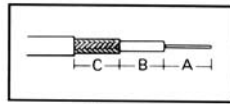
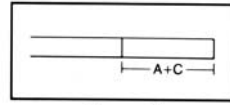

Figure 13
Figure 14
**A.** If your required strip length is as shown in Figure 13, you will choose the 2-step cassette that matches your "C"-dimension. **Mark cable** at length A+C from end (Fig. 14).